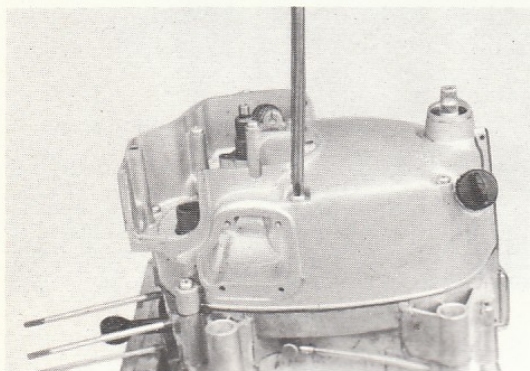

Fig. 3-34
I. CRANKCASE COVER (R)
- a. Remove the pan-head screws holding the right crank case cover (Figs. 3-34 & 3-35). The cover can be removed without removing the oil pump.